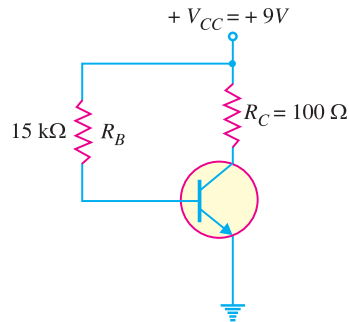

Fig. 9.54
12. The base bias circuit in Fig. 9.54 is subjected to a temperature variation from 0°C to 70°C . The β decreases by 50% at 0°C and increases by 75% at 70°C from its normal value of 110 at 25°C . What are the changes in I_C and V_{CE} over the temperature range of 0°C to 70°C ? [$I_C = 59.6\text{mA}$; $V_{CE} = 5.96\text{V}$]